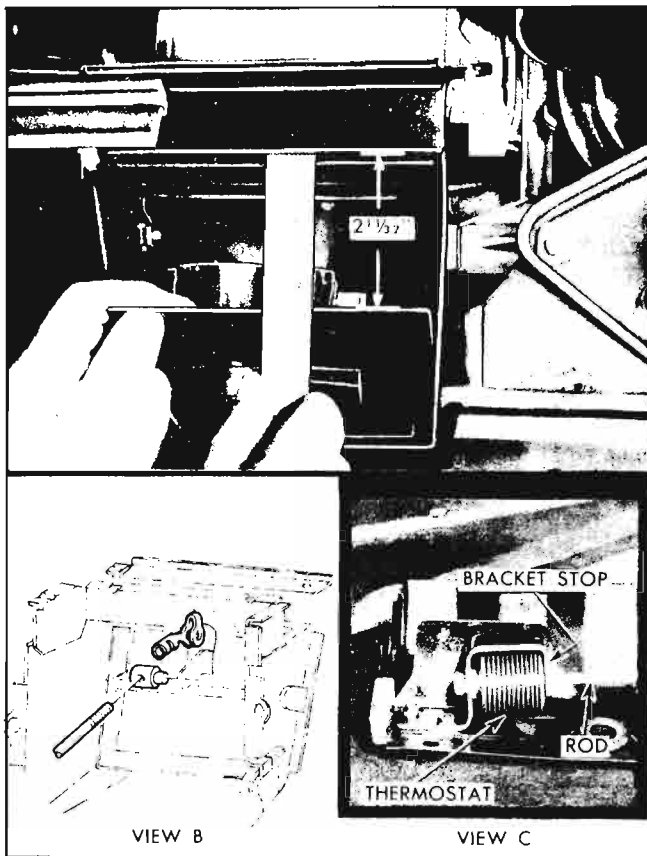

Fig. 7-13—Adjusting Cooling Air Damper
2. Measure the opening of the damper door from its upper edge, as shown in Figure 7-13, and, if necessary adjust swivel to produce a 2.36 (approximately $2\frac{11}{32}$ inch opening.